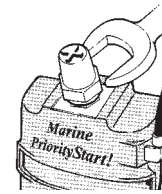

Figure 1
1. Using a 7/8" wrench, tighten firmly Post Adaptor (item ②), into top of PriorityStart! [Fig. 1] (see note 3).